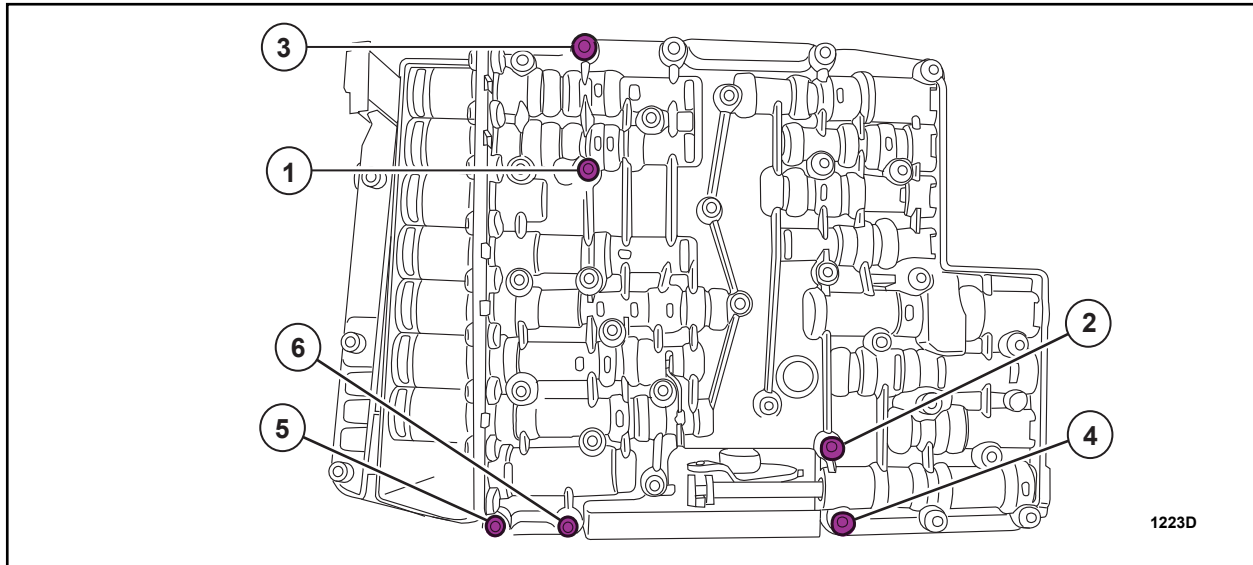

FIGURE 5
9. Tighten the long bolts to 53 lb.in (6 Nm) in the sequence shown. See Figure 5.